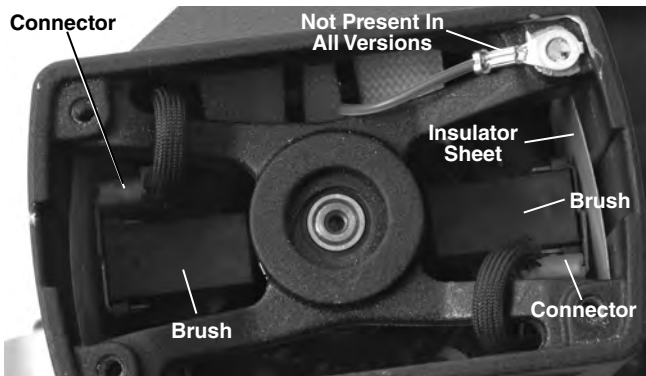

Figure 26 – Brush Placement - Motor Cover Removed
- Using a pair of pliers, pull the motor brush housings straight out. Disconnect the electrical connector. (See Figure 26.)